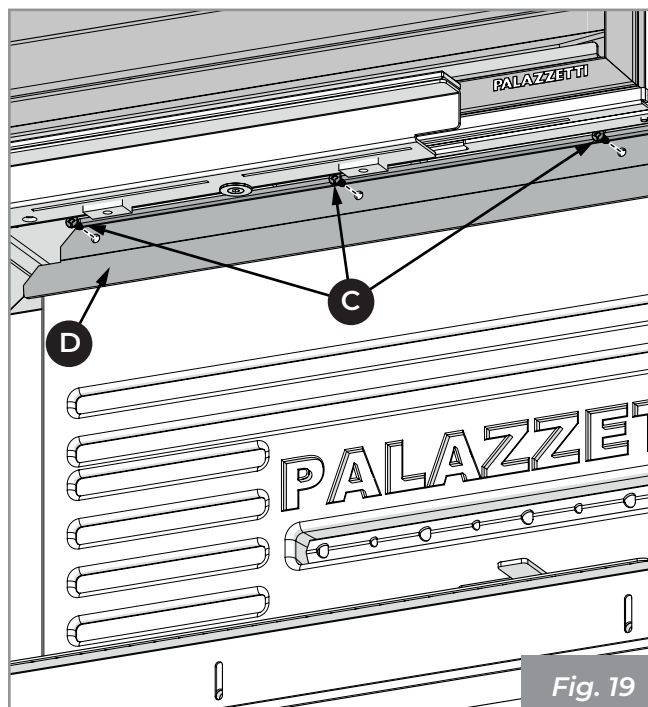

Fig. 19
4) Loosen the screws (C) and remove the refractory block bracket (D) (Fig. 19).